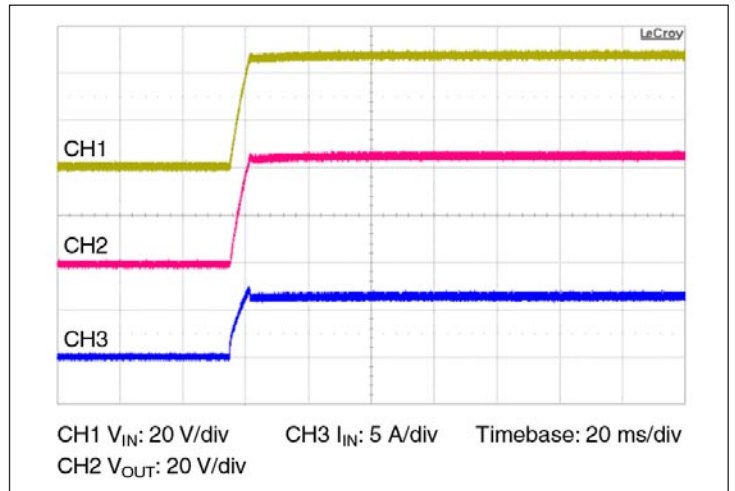

Figure 10 — Start up from application of V_{IN}; VC pre-applied C_{OUT} = 100 μF
- Normal operation (VC applied prior to V_{IN}): In this case the controller is active prior to ramping the input. When the input voltage is applied, the VTM module output voltage will track the input (See Figure 10). The inrush current is determined by the input voltage rate of rise and output capacitance. If the VC voltage is removed prior to the input reaching 26 V, the VTM may shut down.